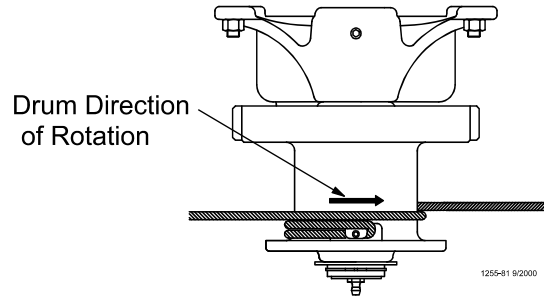

Figure 16. Power Winch Drum Rotation
- Turn the winch drum one full revolution. Guide the cable against the flange at the bottom of the winch drum. The cable must not wrap over itself on the drum, but should be wrapped as close as possible to each previous wrap. See **Figure 16**.